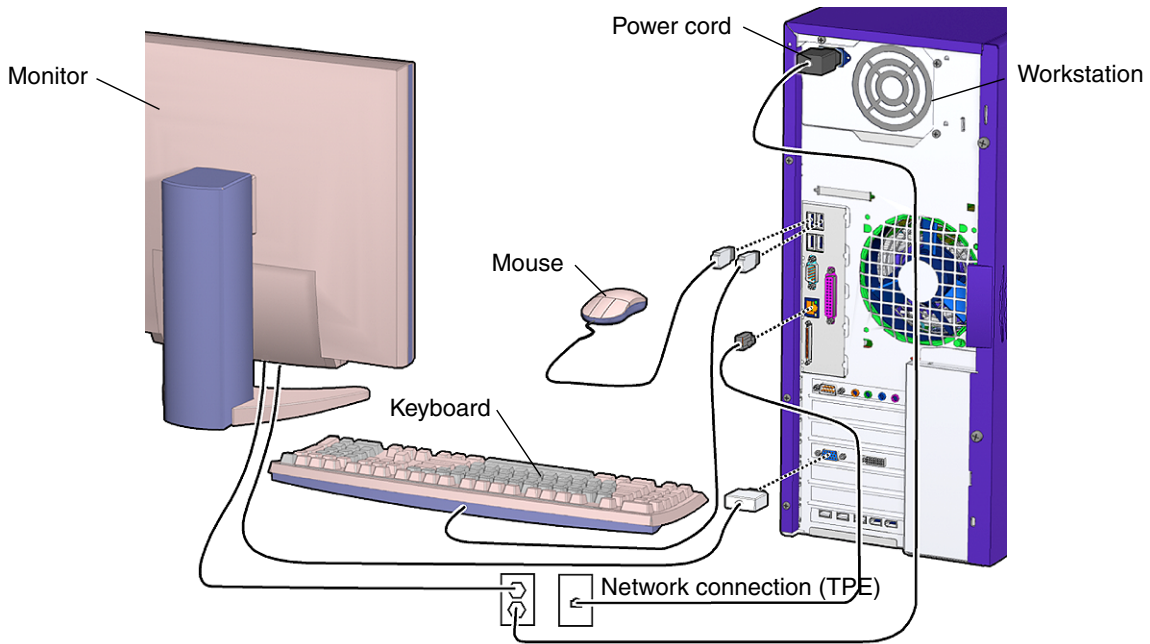

FIGURE 10-3 Disconnecting Attached Peripherals
5. Power off and disconnect all attached external peripherals (FIGURE 10-3).
Note – The power supply power connector may have a vertical or horizontal orientation. This is defined by the vendor of your power supply (FIGURE 10-3).